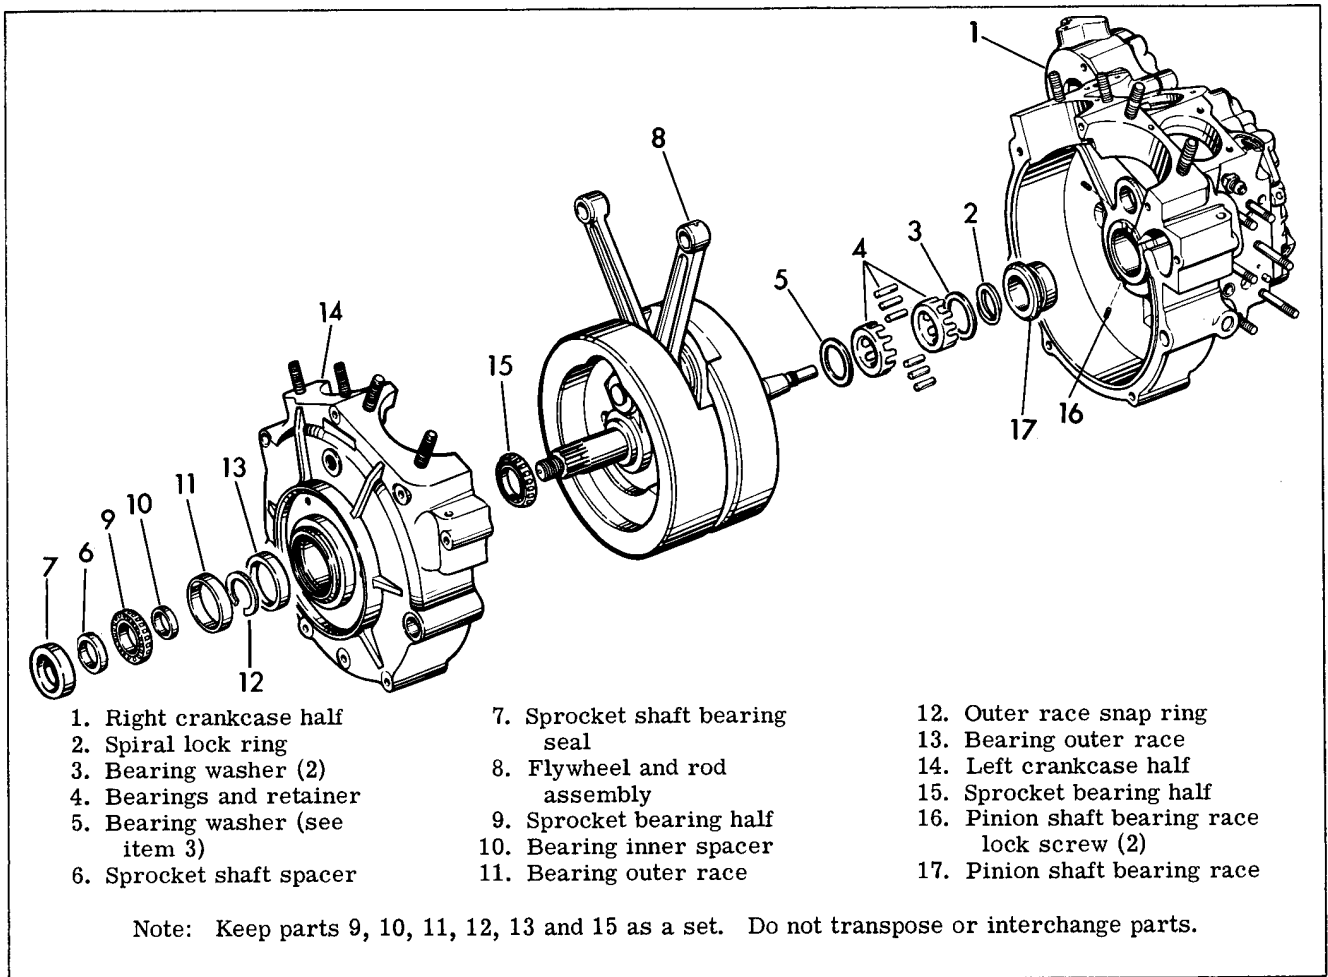

Figure 3-34. Crankcase - Exploded View
Refer to Figure 3-34 and continue disassembly:
3. Examine pinion shaft and right crankcase bushing (see 17, Figure 3-34) for pitting, grooving and gouging at point where right main roller bearings ride. A shaft that is worn must be replaced. If bushing is worn beyond repair, replace as described in "Truing and Sizing Pinion Shaft Main Bearing."
A race that is worn beyond limits of oversize bearings must be replaced. To remove worn bearing race, remove two bearing race lock screws (17, Figure 3-34) from inside of case. Heat case to 275 - 300 degrees F. Heating expands case and makes it possible to remove bearing race using less force. Press worn race (18, Figure 3-34) out and new race in. New race must be lapped slightly to true and align with left case bearing, and to attain a size compatible with roller sizes available.